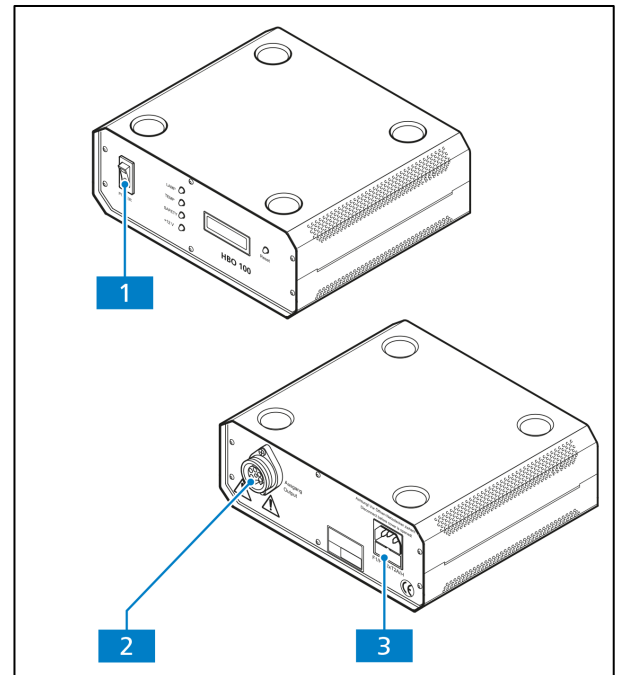

Fig. 3-55 Power supply unit for HBO 100 (front and back)
- Switch the HBO 100 illuminator for overhead fluorescence light (if in use) on or off with the power switch of the power supply unit for HBO 100 (Fig. 3-55/1).